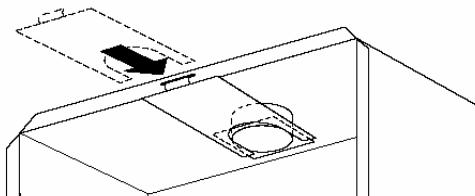

Fig. 4.5
- Slide the clamping plate with the lip upward under the vent connector. The flue connector and pipe or liner rests on the clamping plate. Make sure that the lip of the clamping plate goes in the slot on the front of the firebox (see fig. 4.5).